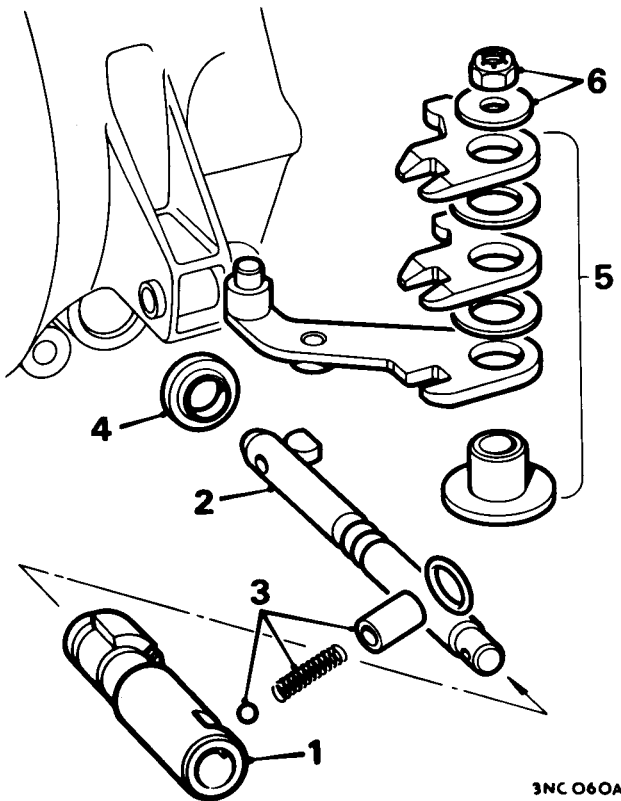

Fig. F.19
38. Lift out the bellcrank levers, washers and pivot sleeve, Fig. F.19. Note the location and markings on the levers for reassembly.
39. Withdraw the interlock spool and selector shaft from inside the casing, Fig. F.19.
55. Refit the sleeve, bellcrank levers (in their correct order) onto the pivot post and tighten the self-locking nut, Fig. F.19.